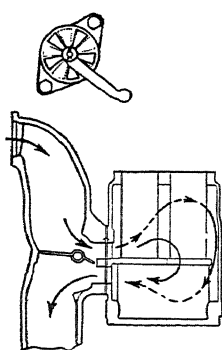

Fig. 81. Heat On
*Heat Control.* The carburetor and manifolds have been designed to utilize the exhaust gases of the engine to insure complete vaporization and a consequent minimum consumption of fuel. A double-walled twin riser, Fig. 81, is placed between the carburetor and the
The damper valve applies the greatest amount of heat to the riser, when in a closed or horizontal position, Fig. 81, decreasing the amount as it moves to the open or vertical position. The damper valve fly is offset, or longer on one side of the valve shaft than the other, which allows the exhaust gas pressure to force open the valve when free to move. The valve is so arranged that at no time is all